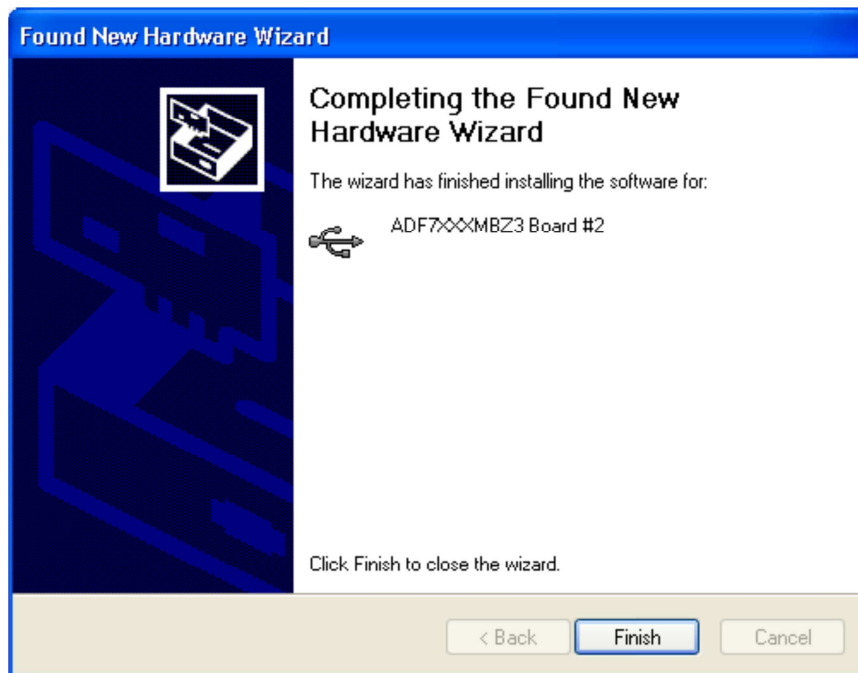

Figure 13
15. Click ***Finish*** (Figure 13):